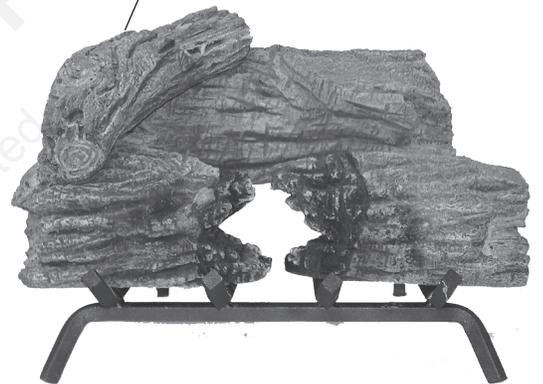

Figure 21 - Placing Left Middle Log (#4)
5. Install left side middle log #4 as shown. See Figure 21.